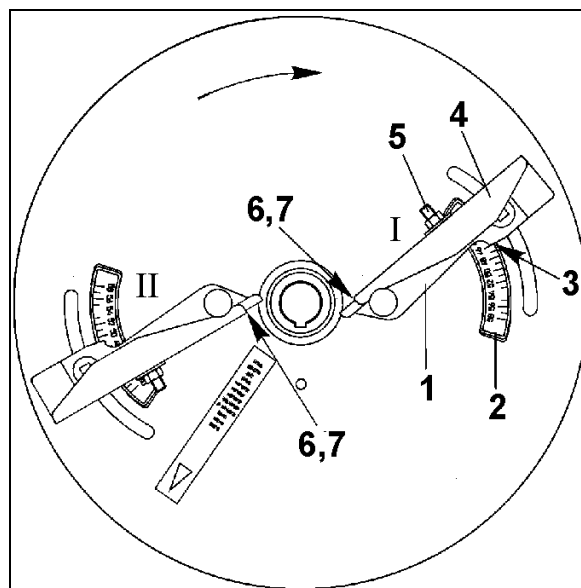

Fig. 64
is done by the telescopic vanes (Fig. 64/1) according to the data given in the setting chart, depending on kind of fertilizer to be spread and the distance of the first track from the field's side as follows:
1. After having slackened the corresponding thumb nut, swivel the telescopic blades (Fig. 64/1) on the spreading within the range of the scale (Fig. 64/2) Read off figure on the reading line (Fig. 64/3) and re-tighten thumb nut.
2. After slackening the nut (Fig. 64/5) set outer vane part (Fig. 64/4) on a higher letter value on the scale (Fig. 64/6) Read off the position of the vane outer part on the reading line (Fig. 64/7) on the scale.